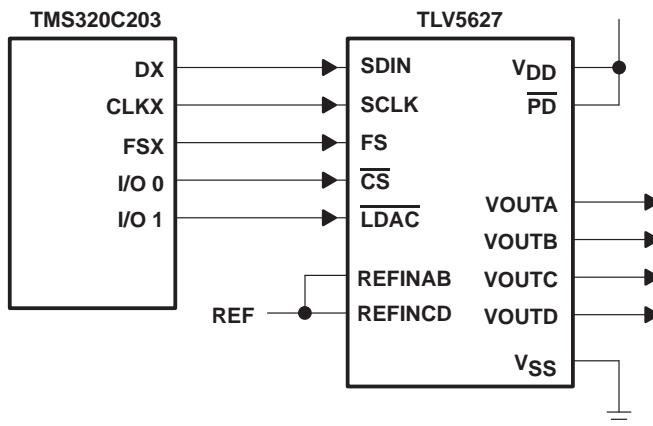

Figure 17. TLV5627 Interfaced with TMS320C203
Figure 17 shows an example of how to connect the TLV5627 to a TMS320C203 DSP. The serial port is configured in burst mode, with FSX generated by the TMS320C203 to provide the frame sync (FS) input to the TLV5627. Data is transmitted on the DX line, with the serial clock input on the CLKX line. The general-purpose input/output port bits I/O0 and I/O1 are used to generate the chip select ( $\overline{CS}$ ) and DAC latch update ( $\overline{LDAC}$ ) inputs to the TLV5627. The active low power down ( $\overline{PD}$ ) is pulled high all the time to ensure the DACs are enabled.